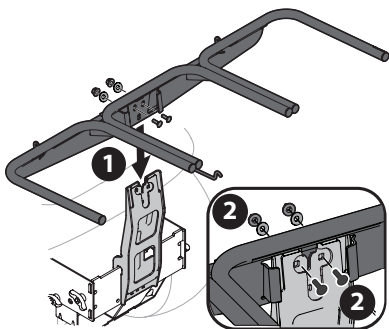

Figure 6
- Install (1) and secure (2) the hanger assembly (683-04498B) to the vertical support using two carriage bolts (710-0276), two cup washers (736-0242) and two lock nuts (712-04063) from hardware pack (689-02364). Do not overtighten. See Figure 6.